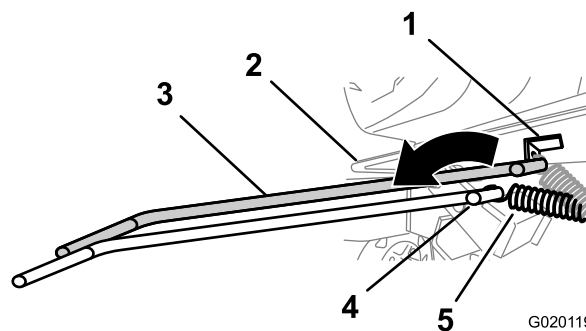

Figure 49
- Using a spring-removal tool (Toro Part No. 92-5771), remove the spring from the anchor bracket on the engine deck (Figure 49).
7. Using a spring-removal tool (Toro Part No. 92-5771), install the tension spring to the anchor bracket on the engine deck (Figure 49).